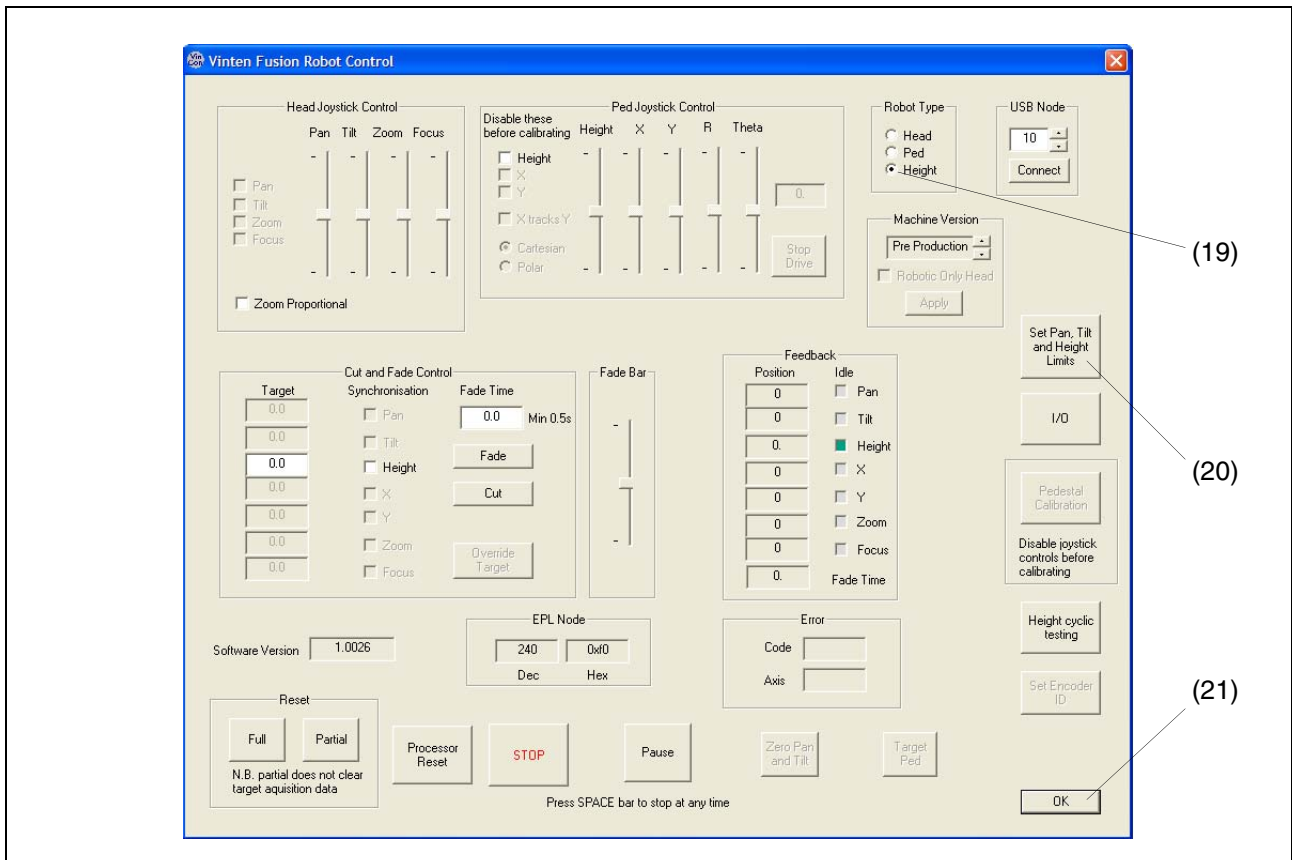

Fig 2 System configuration software application, main screen
5. From the main screen (Fig 2), set the 'Robot Type' to HEIGHT (19), then select the SET PAN,TILT AND HEIGHT LIMITS button (20).
9. Select OK (21) to close the main screen (Fig 2).
10. Disconnect the USB lead from the system configuration port and replace the cover (15).